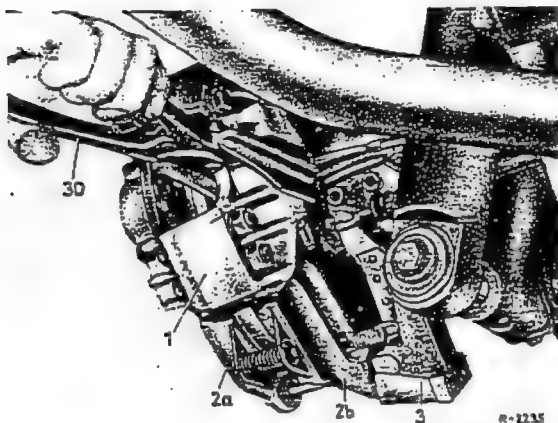

Fig. 42-10/21
6. Use the piston resetting tongs (30) to push the piston back. Make sure that one friction pad always remains in the brake caliper since otherwise pushing back one piston would move the opposite piston forward (Fig. 42-10/21).